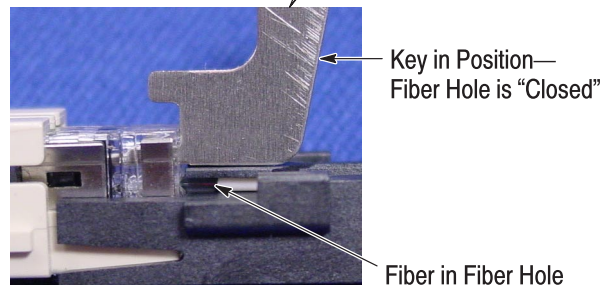

Figure 5
2. With the handle of the actuation key pointed toward the top of the jack, insert the key (pointed end first) into the key hole for Channel A until it stops (the entire key portion must be inside the hole). See Figure 5. DO NOT force the key. With the key in this position, the fiber hole is “closed.”
3. Slide the prepared fiber onto the slot of the fiber guide and into the fiber hole until the fiber stops. Refer to Figure 5.